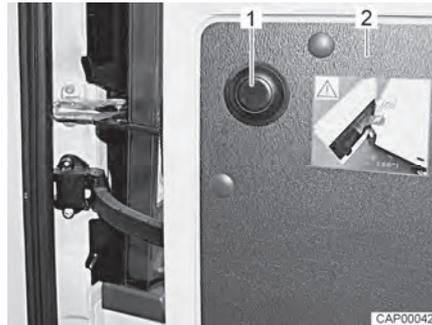

Fig. 17 Push button to release the limitation
- Open the rear door (Fig. 17,2) as far as it will go.
- Press the push button (Fig. 17,1), hold rear door and continue opening carefully.